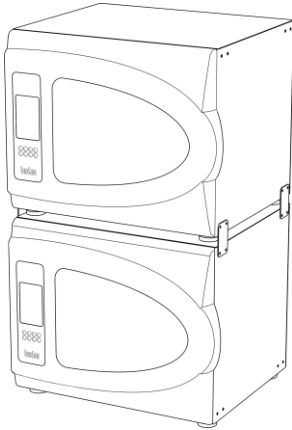

Figure 2. Stacking two units
5.4. Stacking two units (figure 2).